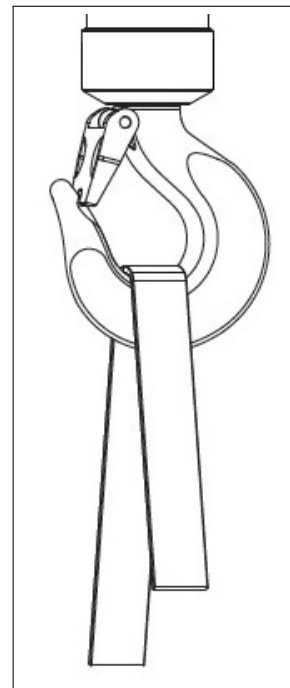

Figure 12: Safely attaching loads
- ▶ Connect the sling gear at the lowest point of the hook. Never load the hook nose (↔ Figure 12).